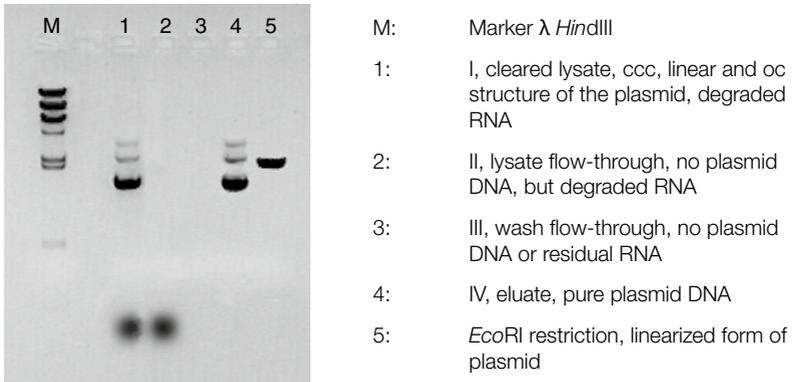

Figure 6 Exemplary analytical check of NucleoBond® Xtra Midi purification samples
The exemplary gel picture (Figure 6) will help you to address the specific questions outlined in the following section more quickly and efficiently.
- Check plasmid content in the cleared lysate (see Figure 6). Use colonies from fresh plates for inoculation and add fresh selective antibiotic to plates and media.
- Too much cell mass was used. Refer to section 4.5 4.8 regarding recommended culture volumes and lysis buffer volumes. Check plasmid content in the cleared lysate (see Figure 6).
- Check plasmid content in the wash fractions (see Figure 6). Keep all buffers tightly closed. Check and adjust pH of Buffer EQU (pH 6.5), WASH (pH 7.0), and ELU (pH 9.0) with HCl or NaOH if necessary.
<ul style="list-style-type: none"> • Check RNA content in the wash fractions (see Figure 6). Keep all buffers tightly closed. Check pH of Buffer EQU (pH 6.5) and WASH (pH 7.0) and adjust with HCl or NaOH if necessary.